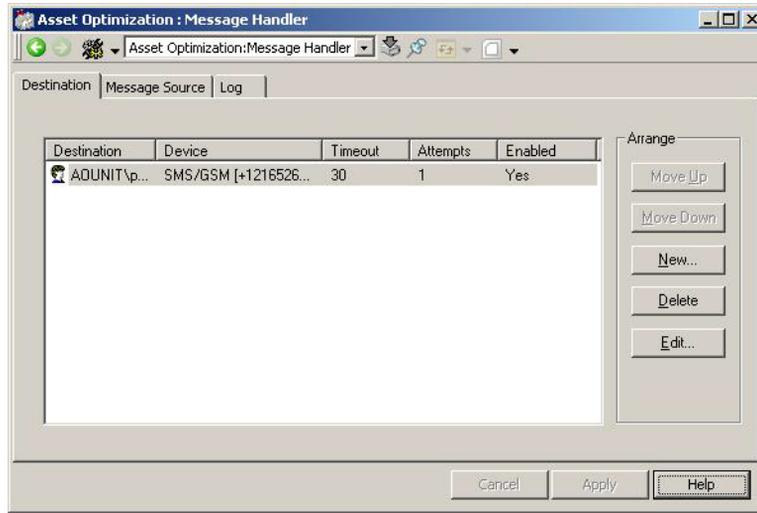

Figure 121. Message Handler - Destination Tab
8. Click the **Destination** tab. The view shown in Figure 121 appears with no destinations configured. The **Destination** tab allows for selection of the message destination (devices associated with user groups and/or users), whether or not those devices are enabled, time-out before resending the